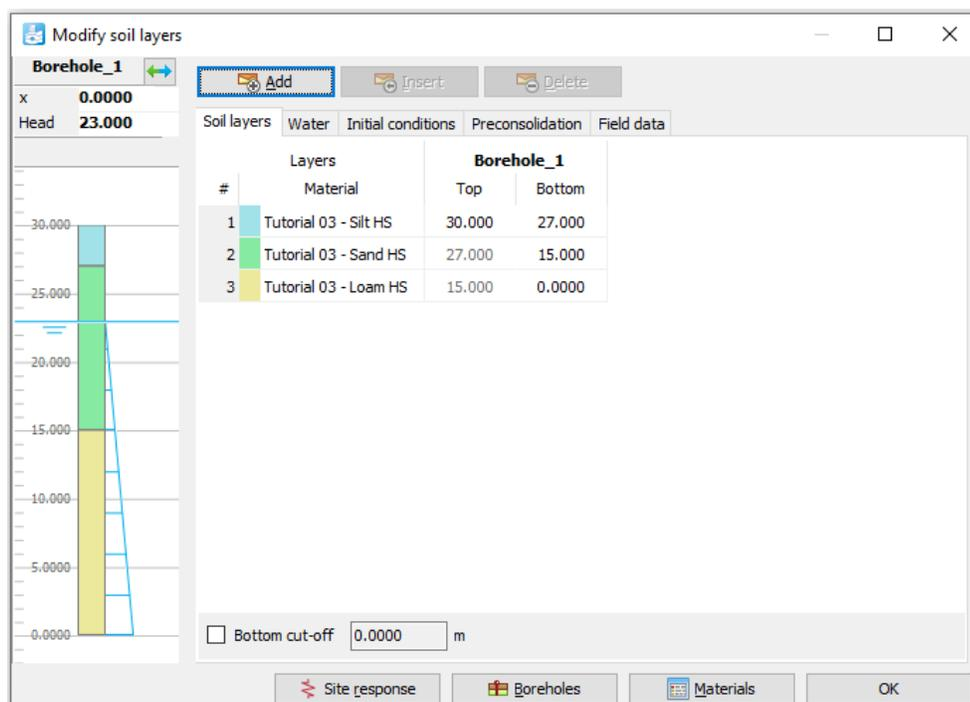

Figure 64: The Modify soil layers window
2. Assign the material data sets to the corresponding soil layers (Figure 64 (on page 95)).